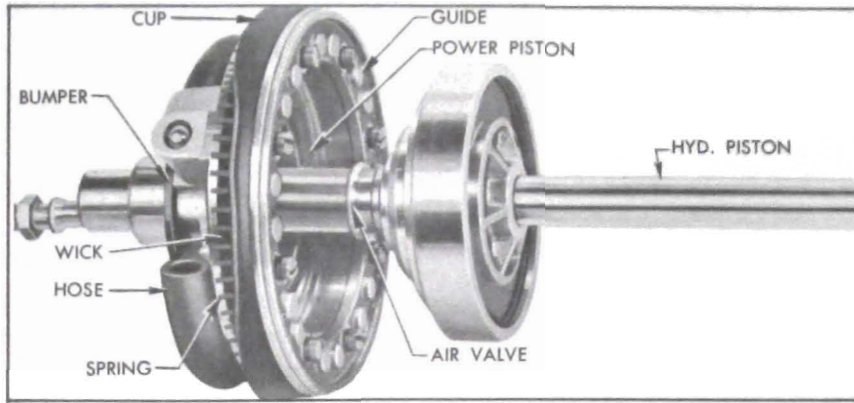

Figure 9-18—Power Piston With Air Valve and Hydraulic Piston Assembly
5. Remove power piston from air valve, figure 9-18, then place the valve and hydraulic piston assembly where the polished surfaces of valve and piston will not be damaged by contact with other parts.
14. Place the felt lubricating wick in the expander spring, saturate wick with oil specified for Dynaflo transmission (par. 1-4), then install in groove of power piston with spring fingers outward and pointing toward bumper end of piston. With leather piston cup retained in the cardboard ring in which it is shipped, install cup over expander spring, making sure it is centered, then install piston guide and attaching screws with lockwashers. See figure 9-18.